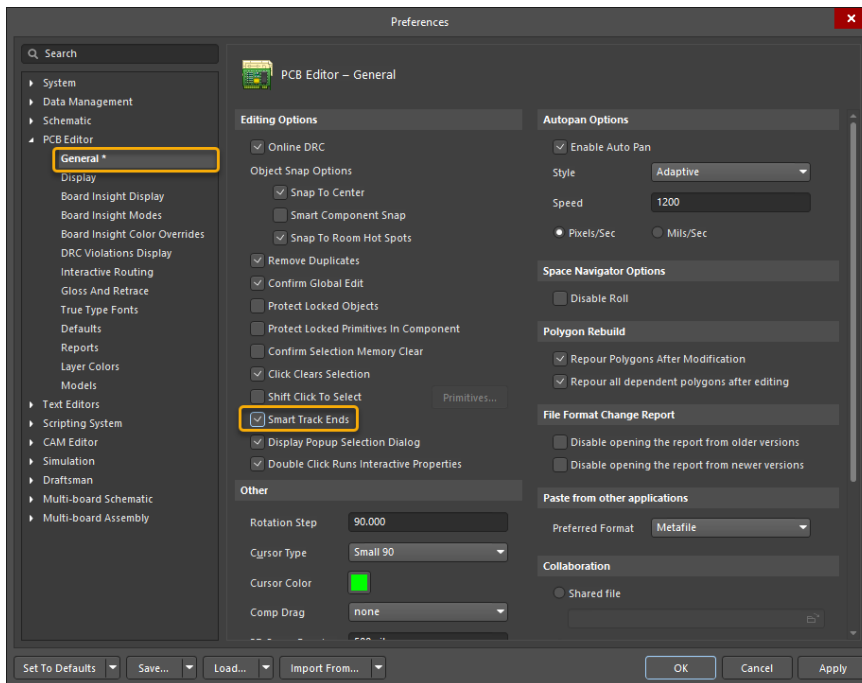

Figure 20. PCB Preferences
34. Under *PCB Editor* section, in the *General* page, verify the **Smart Track Ends** checkbox is enabled as shown in Figure 20. Click **OK** to continue.